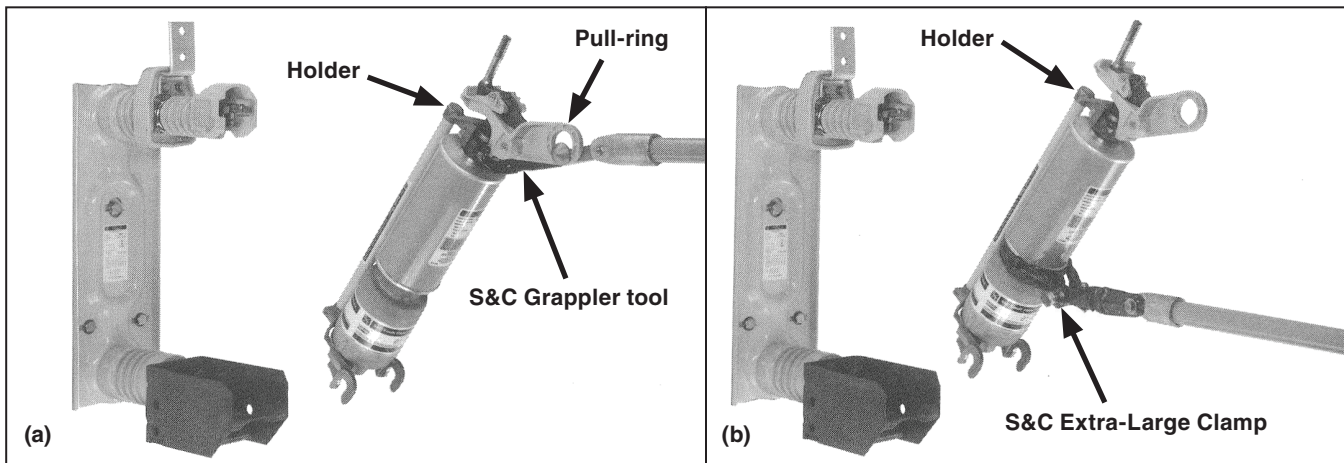

Figure 4. Removing (or installing) the holder using the S&C Grappler tool 4(a) or the S&C Extra-Large Clamp 4(b).
- Attach the Grappler tool to the universal pole approximately in line with the center line of the pole, as shown in Figure 4(a). However, because the most advantageous positioning for the Grappler tool depends on the elevation of the fuse mounting relative to the operator, the handling tool should be adjusted as required to accommodate conditions.
- Position the Grappler tool cone in the pulling of the holder. Then, standing in a normal upright position facing the universal pole, remove the holder from the mounting using an upward lifting motion. See Figure 4(a).
- Attach the extra-large clamp to the universal pole, as shown in Figure 4(b). However, because the most advantageous positioning for the extra-large clamp depends on the elevation of the fuse mounting relative to the operator, the handling tool should be adjusted as required to accommodate conditions.
- Position the extra large clamp around the holder. Then, standing in a normal upright position facing the universal pole, remove the holder from the mounting using an upward lifting motion. See Figure 4(a).
**STEP 1.** Use a universal pole● equipped with an S&C Grappler■ or an S&C Extra-Large Clamp▲ to install holders in mountings rated 13.8 kV. See Figure 4 on page 8. Holders for fuses rated 25 kV should be installed by hand, provided the mounting has been de-energized and properly grounded in accordance with local operating practices. For fuse closing instructions, refer to Step 2.
- (a) Attach the Grappler tool to the universal pole approximately in line with the center line of the pole as shown in Figure 4(a). However, because the most advantageous positioning for the Grappler tool depends on the elevation of the fuse mounting relative to the operator, the handling tool should be adjusted as required to accommodate conditions.
- (a) Attach the extra-large clamp to the universal pole, as shown in Figure 4(b) on page 8. However, because the most advantageous positioning for the extra-large clamp depends on the elevation of the fuse mounting relative to the operator, the handling tool should be adjusted as required to accommodate conditions:
- (c) Securely attach the handling tool at the location shown in Figure 4(b) on page 8. Make sure the handling-tool jaws are fully tightened before attempting to lift the holder. Then, standing in a normal upright position facing the universal pole, lift the holder and lower it into the hinge, making sure the holder is securely seated in the hinge before disengaging the handling tool.